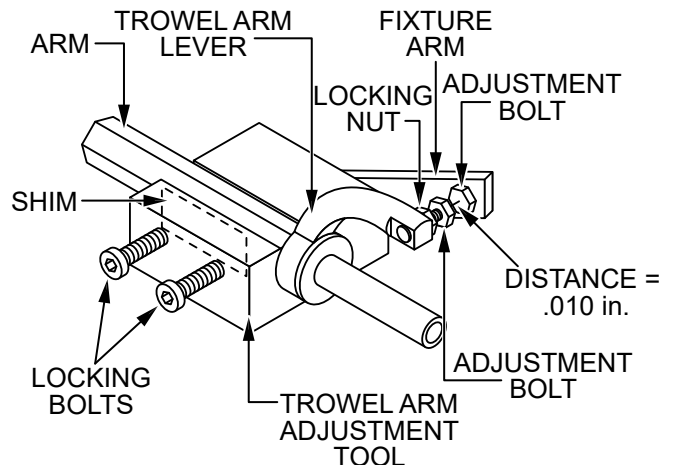

Figure 85. Trowel Arm Adjustment
4. Unscrew the locking bolts on the adjustment tool and place the trowel arm into the fixture channel as shown in Figure 85. A thin shim may be required to cover the blade holes on the trowel arm. Make sure to align the trowel arm adjustment bolt with the fixture adjustment bolt.
5. Tighten the locking bolts (Figure 85) with an Allen wrench to secure the trowel arm in place.
6. Loosen the locking nut on the trowel arm lever (Figure 85), then turn the trowel arm adjustment bolt until it barely touches (.010") the fixture adjustment bolt.